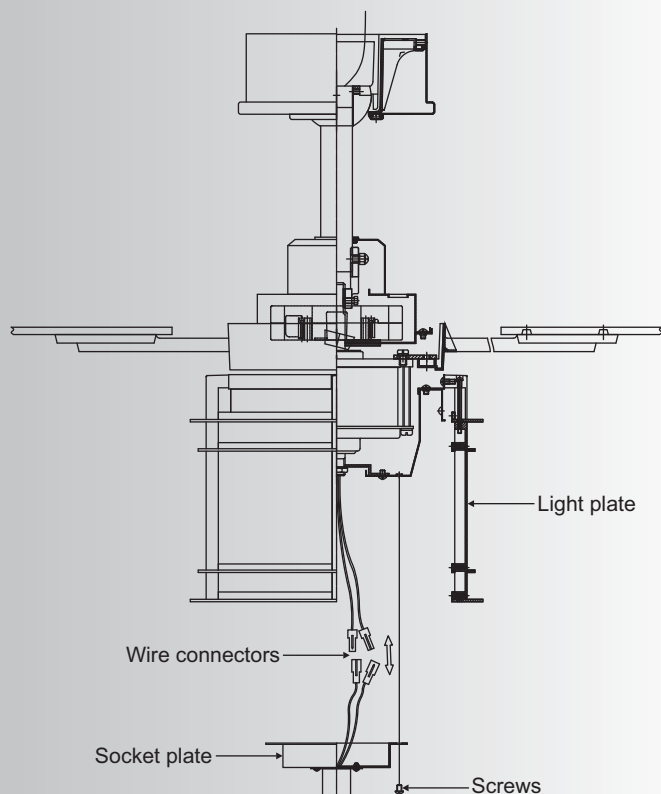

Fig. 16
Hold the socket plate close to the light plate and connect the white wires from the socket plate and blue wire from the fan by pushing the connectors together. Follow the same procedure with the black wire connectors. (Fig. 16)
Step 2. Tuck the connections neatly into the light plate. Place the key holes on the socket plate over the 2 screws previously loosened from the light plate, turn the socket plate until it locks in place at the narrow section of the key holes. Secure by tightening all three screws. (Fig. 16)